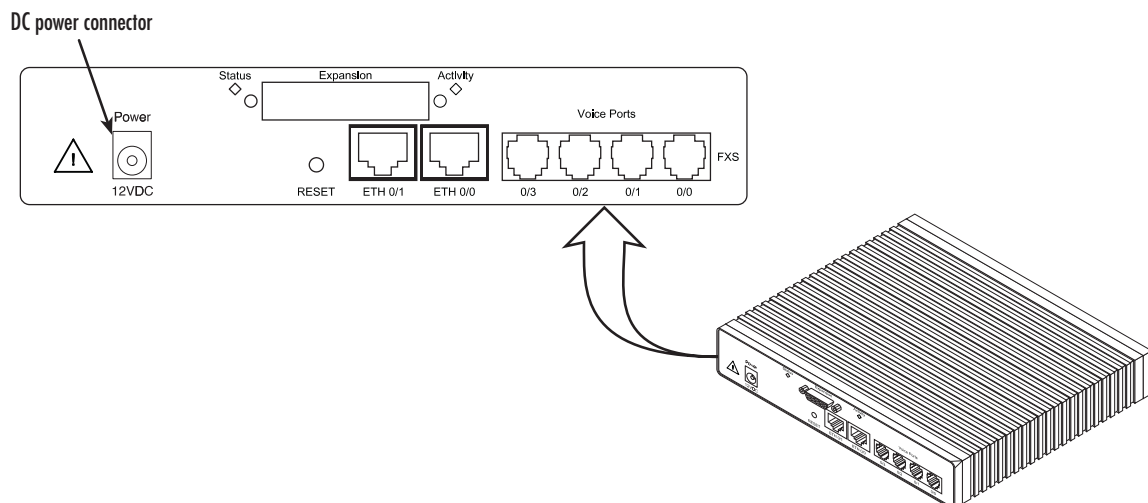

Figure 6. SmartNode 4830 Series power input connector
- *EUI* stands for external universal input power supply (see figure 6)